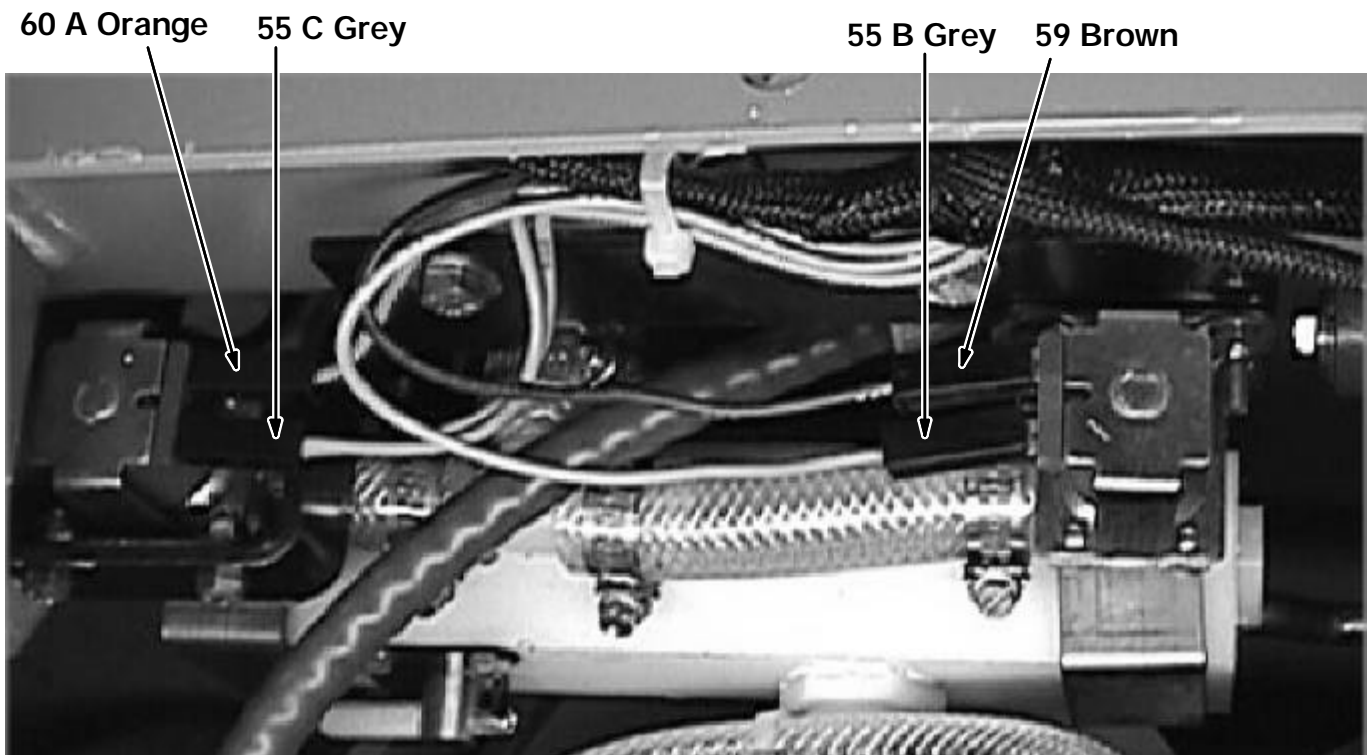

FIG. 1 - SOLUTION CONTROL VALVE PRIOR TO MODIFICATION
(Refer to FIG. 1 thru 4)
3. Remove 55B Grey from the solution 1 valve. (Refer to FIG. 1)
4. Remove 59 Brown from the solution 1 valve. (Refer to FIG. 1)
7. Remove the 55C Grey wire from the solution 2 valve. (Refer to FIG. 1)
8. Remove the 60A Orange wire from the solution 2 valve. (Refer to FIG. 1)